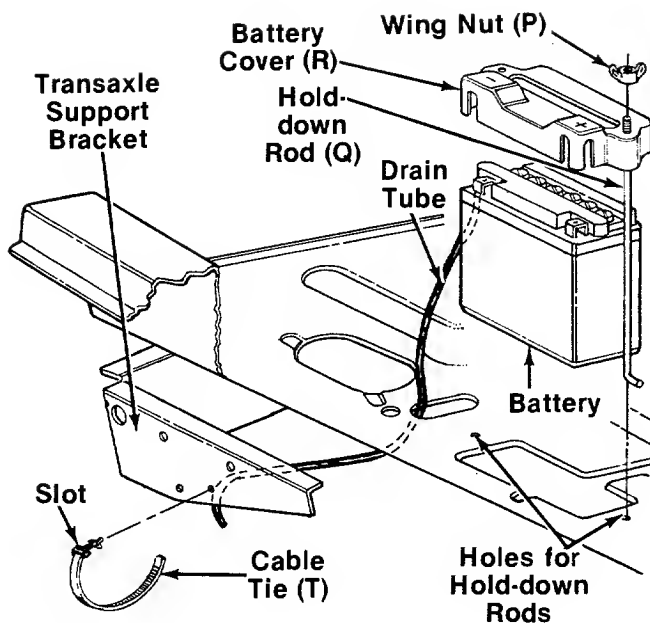

FIGURE 16.
5. Secure the battery in place with battery cover (R) and hold-down rods (Q). Secure with two wing nuts (P). See figure 16.
6. Route the clear plastic drain tube down through the hole in the frame shown in figure 16.
7. Push the locking end of cable tie (T) through the hole in transaxle support bracket. See figure 16. Place the end of cable tie through the slot so a loop is formed around the drain tube to secure it. Tighten cable tie and cut off excess end.